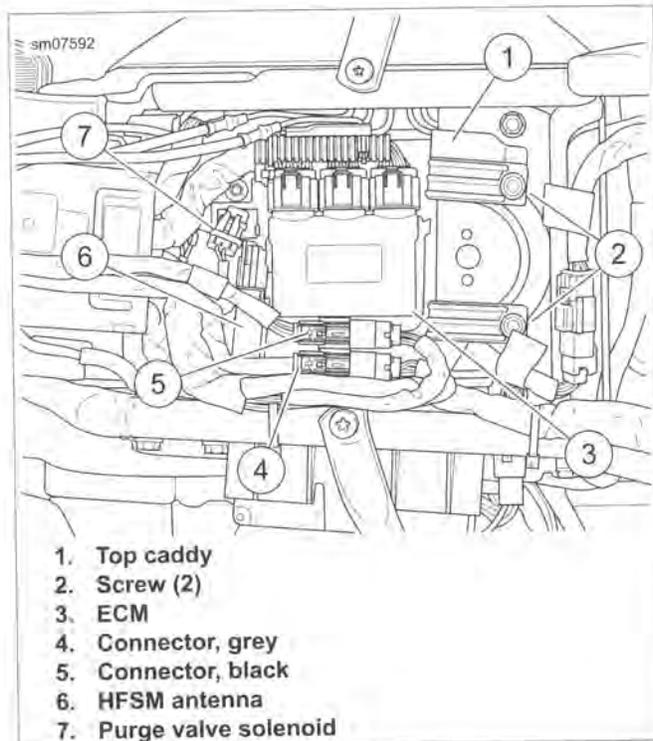

Figure 7-4. Top Caddy
2. See Figure 7-4. Remove HFSM antenna (6), if present.
3. Lift up on ECM (3) until free of caddy.
5. Remove screws (2).
6. Lift caddy and slide purge valve solenoid (7) from caddy, if present. Remove caddy.
1. See Figure 7-4. Install purge valve solenoid (7) on caddy (1). Place caddy into position over battery.
2. Install screws (2). Tighten to 72-96 in-lbs (8.1-10.9 Nm).
3. Install ECM (3).
4. Install HFSM antenna (6) onto caddy, if present.